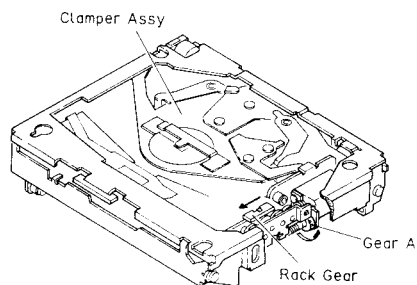

Fig. 10
1. Turn the gear A manually in the arrow direction. (Fig. 10)
2. Press the rack gear in the arrow direction and engage gears.(Fig. 10)
3. Put into the play mode. (The clamber assembly is at low position.) (Fig. 10)